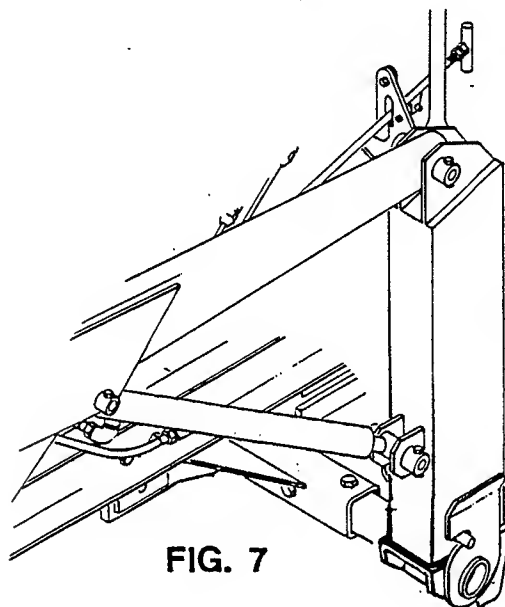

FIG. 7
- Push hydraulic control lever forward to lower loader uprights onto the ends of the subframe. Make sure lower upright hooks center on the subframe end tubes on both sides. See Fig. 7.